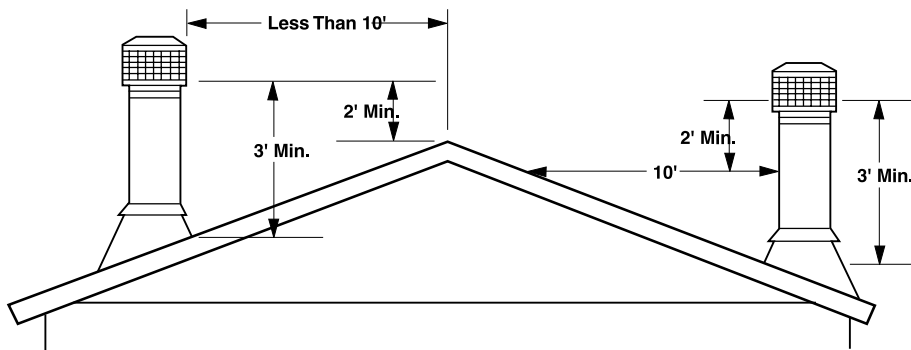

Figure 6
8. Figure 6 illustrates the correct height of your chimney top. It is unlikely that your installation does not adhere to the installation instructions. However, if not correct, you could experience an unusual downdraft. Usually, the best solution is to increase the chimney height. This may also be necessary if nearby trees, adjoining roof lines or a hill is causing a downdraft condition.